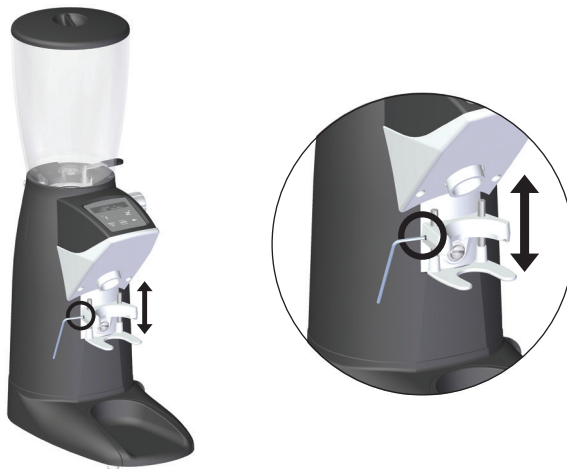

Fig. 2
1. Loosen the two adjustment screws (10) found on each side of the upper portafilter fork (16), by using the *Allen Key* included with your grinder.
3. Tighten the screw (10) found on each side of the upper portafilter fork (16), with the *Allen Key* provided (*Fig. 2*).
2. Check that the detector ring tab is properly closed (Fig. 2).